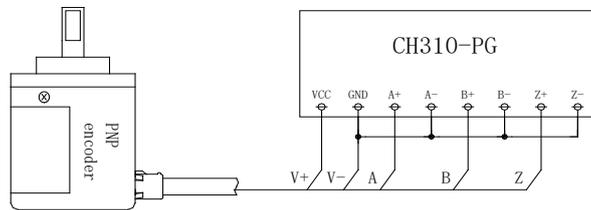

Figure 9-3 Wiring of PNP-type OC Encoder
- 1、 When a PNP-type OC encoder is used, the encoder signal is connected to the push-button terminals (A+, B+, and Z+), as shown in Figure 9-3.